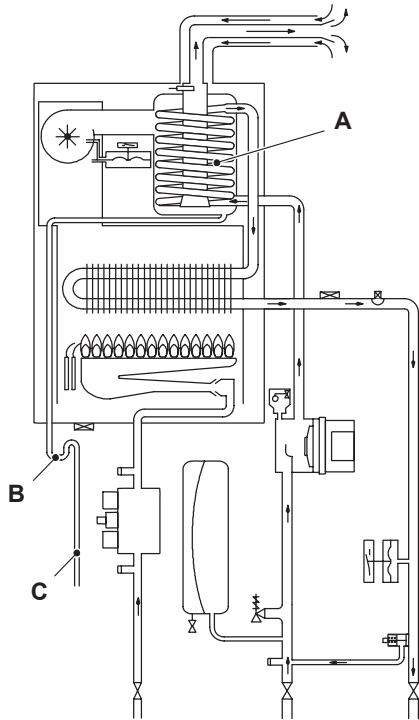
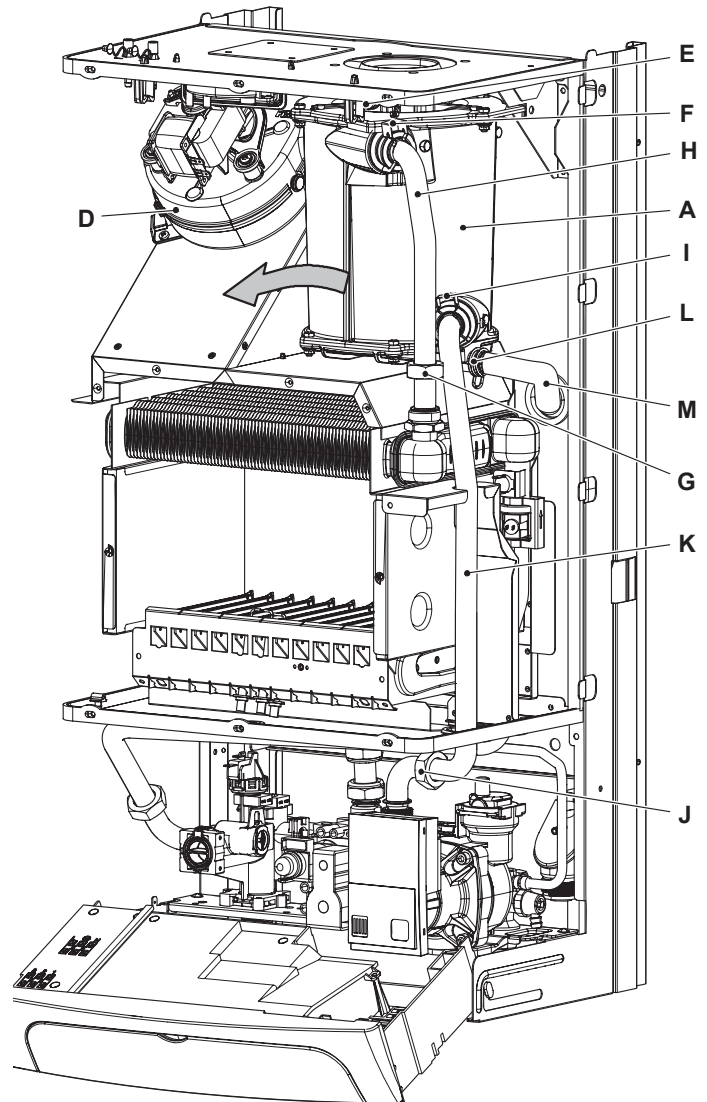

Figure 6.1
Figure 6.2
The return water flows through the condensing heat exchanger A in Figure 6.1 and Figure 6.2.
- 3 Remove the fan D in Figure 6.2 (see section "Removal of the Fan" page 30).